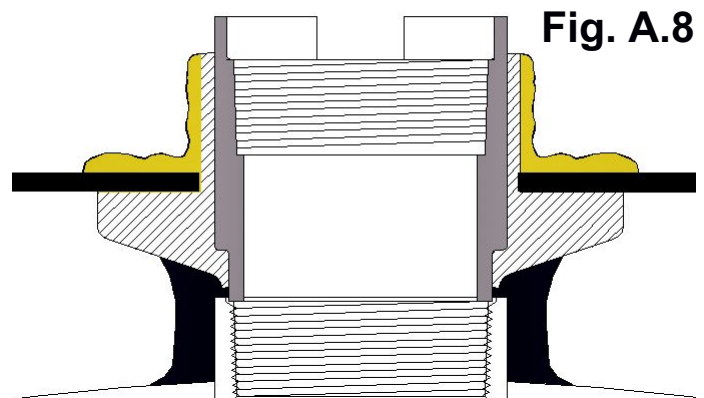

Fig. A.8
**A.8** - Add more adhesive to the exposed fiberglass areas of the Tank Sump and fitting. (Fig. A.8)